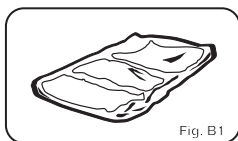

Fig. B1
8. Open the air release tube and allow the inflatable slide to deflate completely. It should deflate on its own within 5 minutes.(Fig B1)